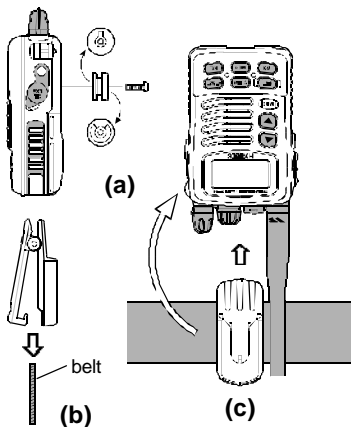

Figure 4
1. Connect the hanger to the rear of the **HX460S**, using the supplied screw (**Figure 4-a**).
2. Clip the Quick Draw Belt Clip to your belt (**Figure 4-b**).
4. To remove the **HX460S** from the Quick Draw Belt Clip, Rotate the **HX460S** 180 degrees, then slide the transceiver out from the Quick Draw Belt Clip (**Figure 4-c**).